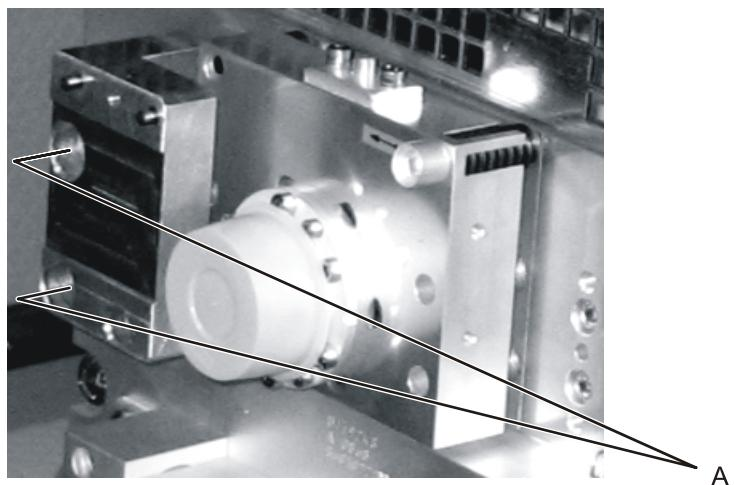

Figure 34: Removing the energy monitor holding bracket
61. Use the 4 mm allen key to unscrew the two countersunk screws (see Figure 34) and remove the energy monitor holding bracket from the removed laser tube.